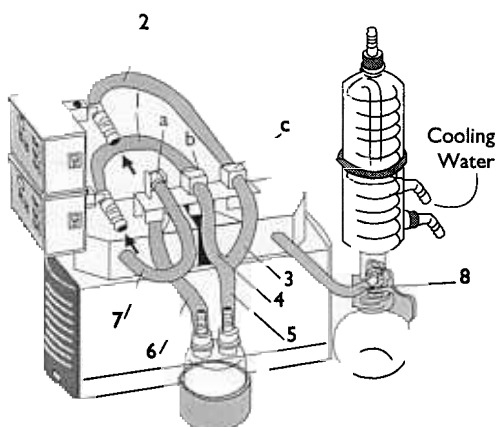

Figure 12: Tubing Connection SCC (twin head pumps)
- ★ Tubing of twin head pumps: see figure 12. When connecting single head pumps, study the Information Sheet that accompanies the accessories. Choose tube material which is resistant to the media used.
- ★ Tubing of two headed pumps see figure 12. When connecting single head pumps, study the Information Sheet that accompanies the accessories. Choose tube material which is resistant to the media being used.